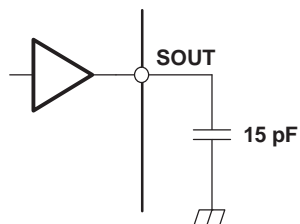
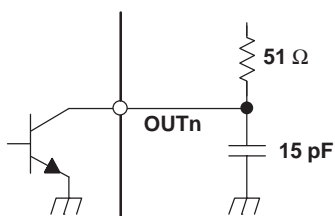
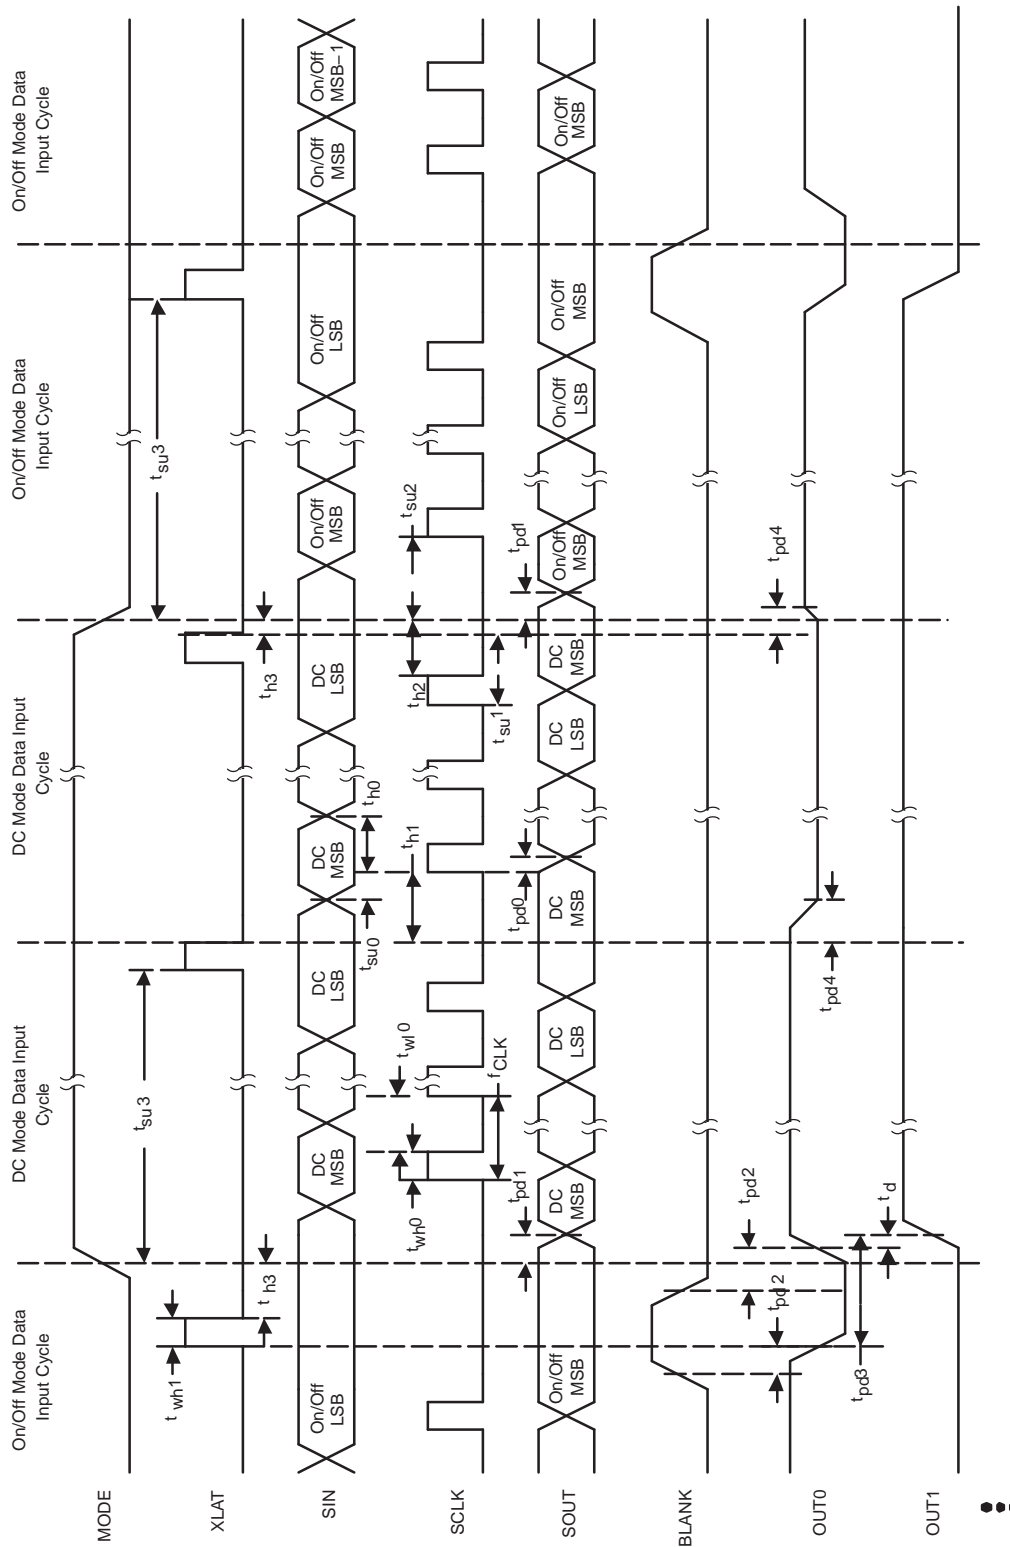

Figure 4. Test Circuit for t_{r0} , t_{f0} , t_{d0} , t_{d1}
Figure 5. Test Circuit for t_{r1} , t_{f1} , t_{pd2} , t_{pd3} , t_{pd4}
Figure 10. Timing Chart Example for ON/OFF Setting to Dot-Correction
- (1) See Figure 4 . Defined as from 10% to 90%
- (2) See Figure 5 . Defined as from 10% to 90%
- (3) See Figure 4 . Figure 10
- (4) See Figure 5 and Figure 10
- (5) See Figure 5 and Figure 10
MODE must be set to high to input data into the dot-correction register. The internal input shift register is then set to 112-bit width. After all serial data is clocked in, a rising edge of XLAT latches the data to the dot-correction register (Figure 10).
MODE must be set to low to input On/Off data into the On/Off register. The internal input shift register is then set to 16-bit width. After all serial data is clocked in, a rising edge of XLAT, during BLANK = high, is used to latch data into the On/Off register. Figure 10 shows the On/Off data input timing chart.